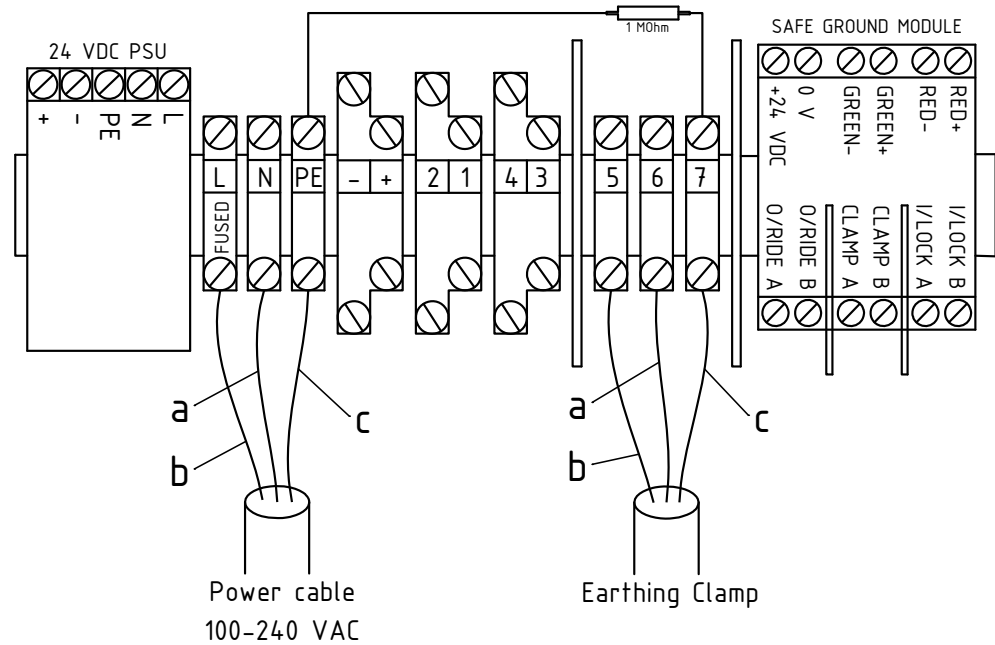
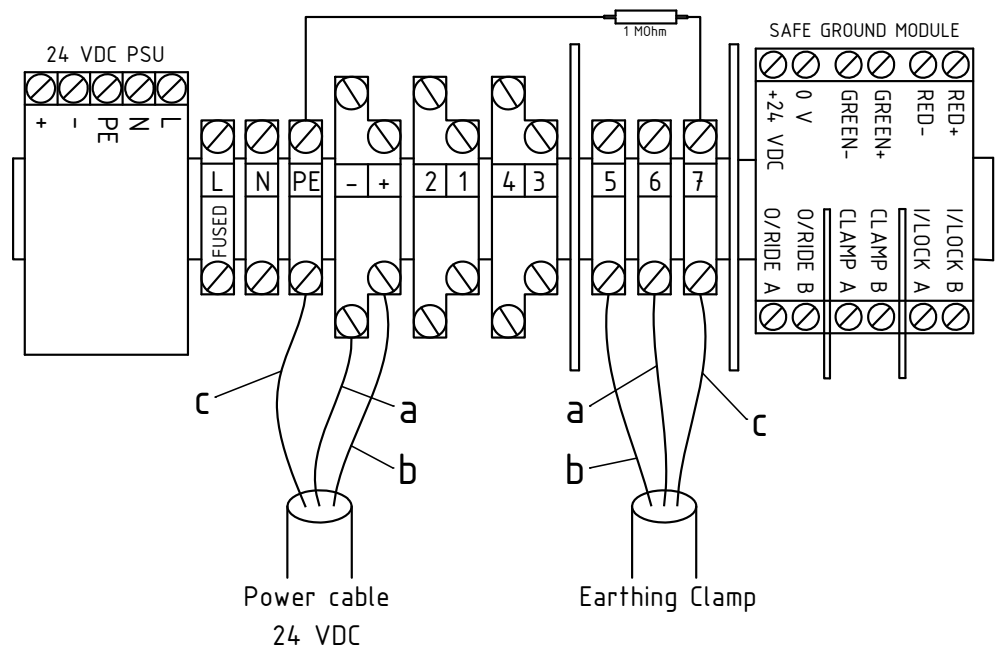

Fig. 6:
Fig. 7:
After opening the enclosure cover, the connection area is accessible. On the right are the terminals for the ground contactors. These circuits are intrinsically safe. On the left side are the non-intrinsically safe connection terminals for the supply voltage and the signal contacts (see Fig. 6 / Fig. 7). The connecting leads inside the connection space must be routed such that intrinsically safe and non-intrinsically safe leads cannot touch each other even if a wire should come loose. Use cable ties, if necessary.
- Insert cable and connect according to Fig. 6 / Fig. 7.